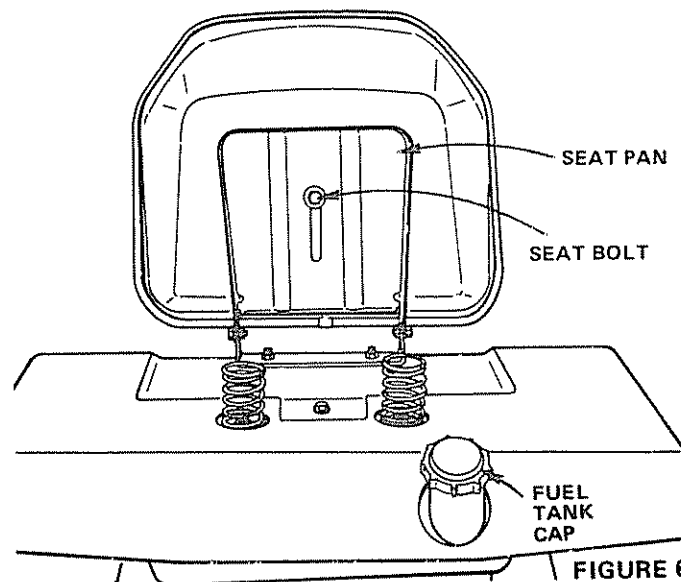

FIGURE 6
9. To adjust seat position, swivel seat forward. Use 3/4" wrench to loosen Seat Bolt and slide seat to desired position. Make sure seat sets straight on Seat Pan and tighten Seat Bolt securely (Fig. 6).
2. Fill Fuel Tank (Fig. 6), Use fresh, clean, unleaded automotive gasoline. (Leaded "Regular" grade gasoline is an acceptable substitute, but will increase carbon and lead oxide deposits and reduce valve life). Capacity is 3 - 1/2 gallons.